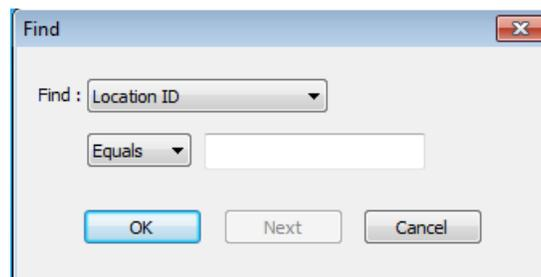

Figure 2-10: Calibration Report Details (Header/Footer)
1. Select *Tools > Find* from the menu bar. See Figure 2-10.